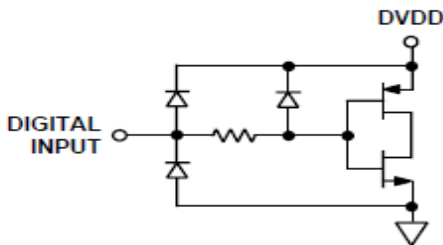

Figure 17. Equivalent Digital Input
Figure 17 shows the equivalent digital input circuit for the data and clock inputs. The sleep mode input is similar, except that it contains an active pull-down circuit, thus ensuring that the D9708 remains enabled if this input is left disconnected. The internal digital circuitry of the 3PD9708(E) is capable of operating over a digital supply range of 2.7 V to 5.5 V. As a result, the digital inputs can also accommodate TTL levels when DVDD is set to accommodate the maximum high level voltage, $V_{OH}(MAX)$, of the TTL drivers. A DVDD of 3 V to 3.3 V will typically ensure upper compatibility of most TTL logic families.